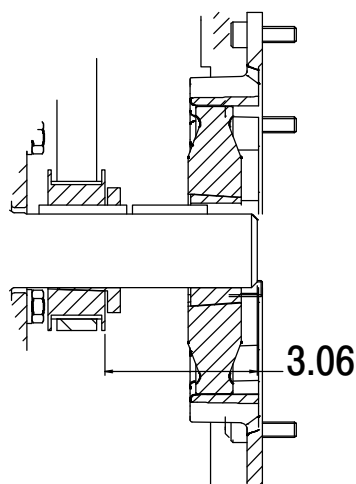

Figure 8. Drive Sprocket Positioning
Install the inboard key supplied with bushing (13) making sure to leave room in the keyway for the drive key (5, Figure 3). Install the sprocket (14) and bushing (13) on the shaft to the dimension shown in Figure 8.
When properly installed to the dimension shown in Figure 8, the key (5, Figure 3) **will not** extend fully through the bushing. This is an acceptable fit for this application.
Install the shaft key (5, Figure 3) in the shaft keyway. Align the keyway in the bushing (2) with the shaft key, and slide the bushing onto the shaft to the dimension shown in Figure 8. Rotate the flexible portion of the coupling until the tapped holes for the two setscrews align with those in the bushing, and install the setscrews.